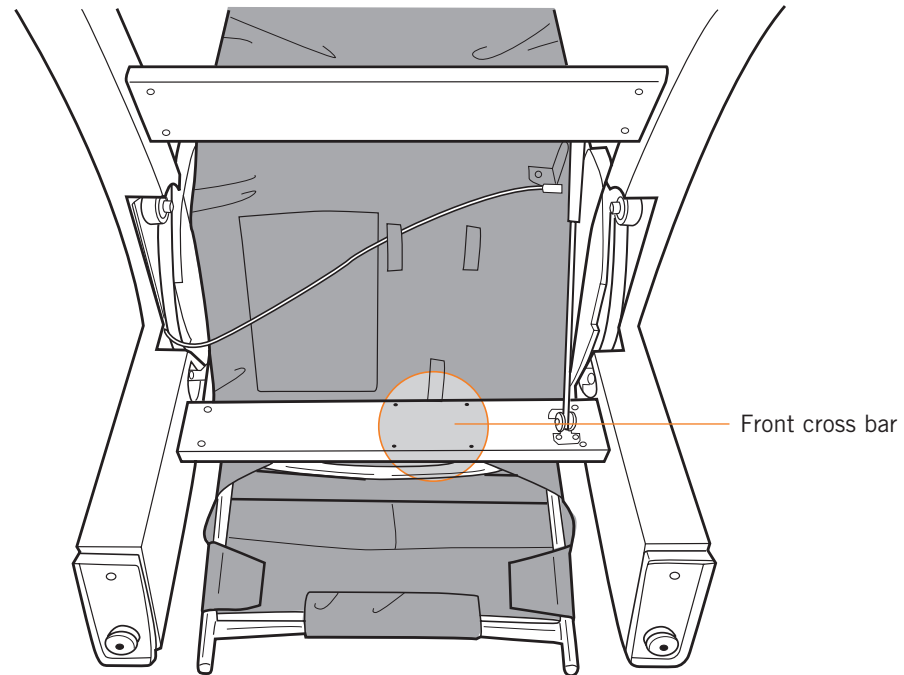

Fig.11
1. Gently tip the chair forward onto the footrest (Fig.11).